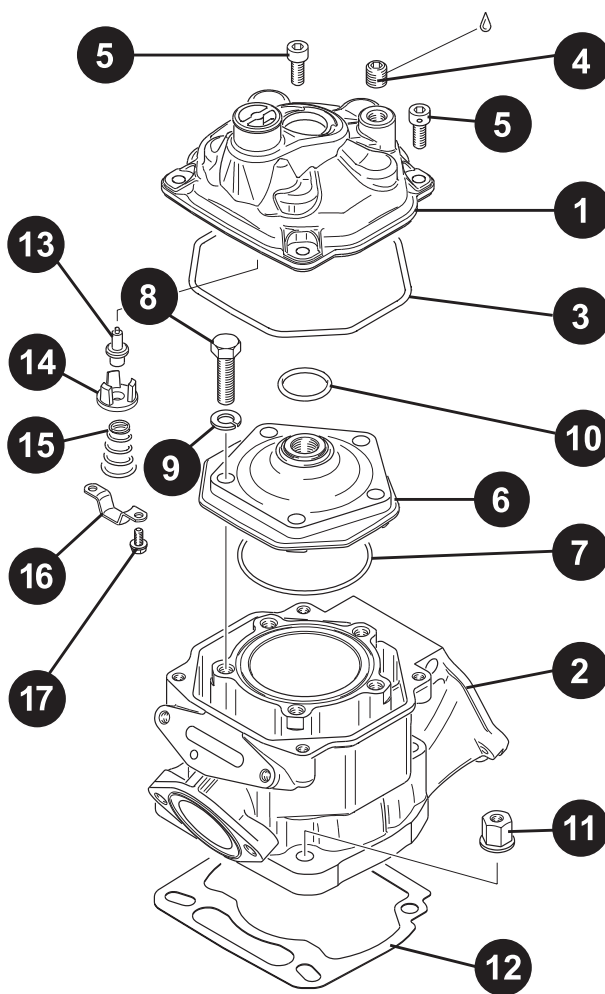

Fig. 88
- ⇒ Insert the new o-ring (7) in the groove.
- ⇒ Secure the combustion chamber insert (Item 6) to the cylinder (Item 2) by crosswise tightening the five screws (Item 8) with spring washers (Item 9), taking care not to crush the o-ring (Item 7), see Fig. 88. The prescribed tightening torque is 30 Nm.
- ⇒ Install the thermostat (Item 13) with disc (Item 14), spring (Item 15) and bracket (Item 16) and tighten the 2 recessed head screws (Item 17), see Fig. 88.